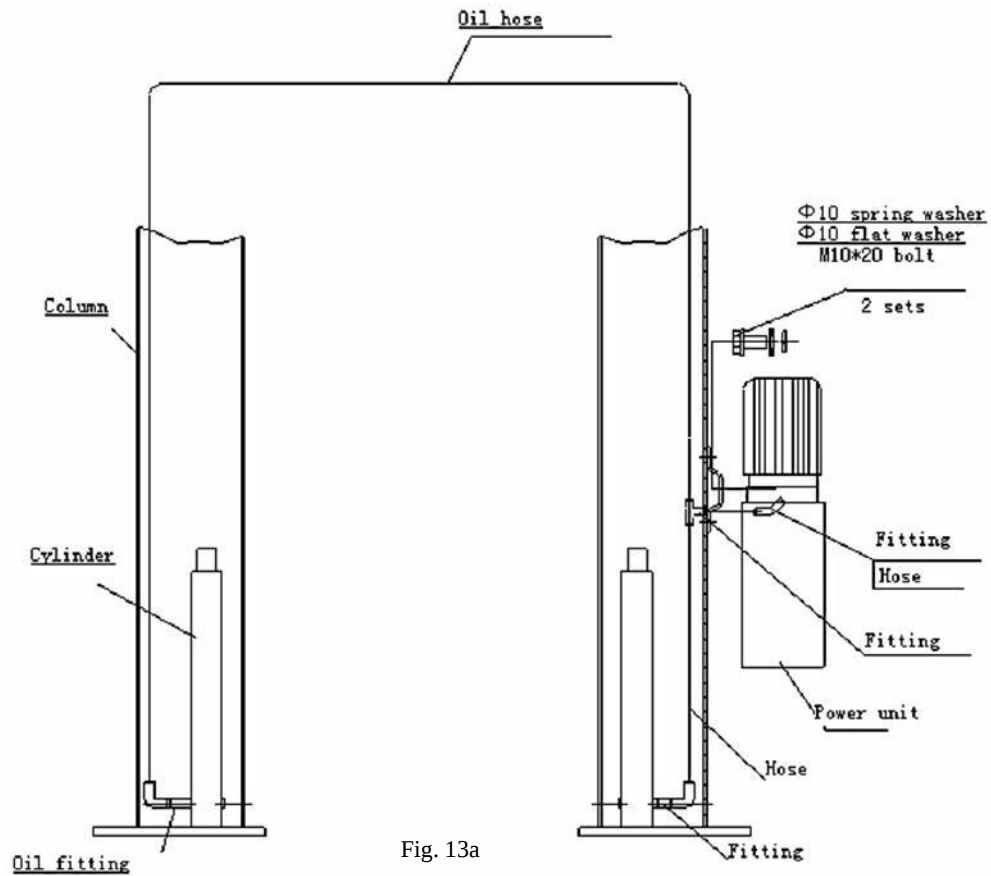
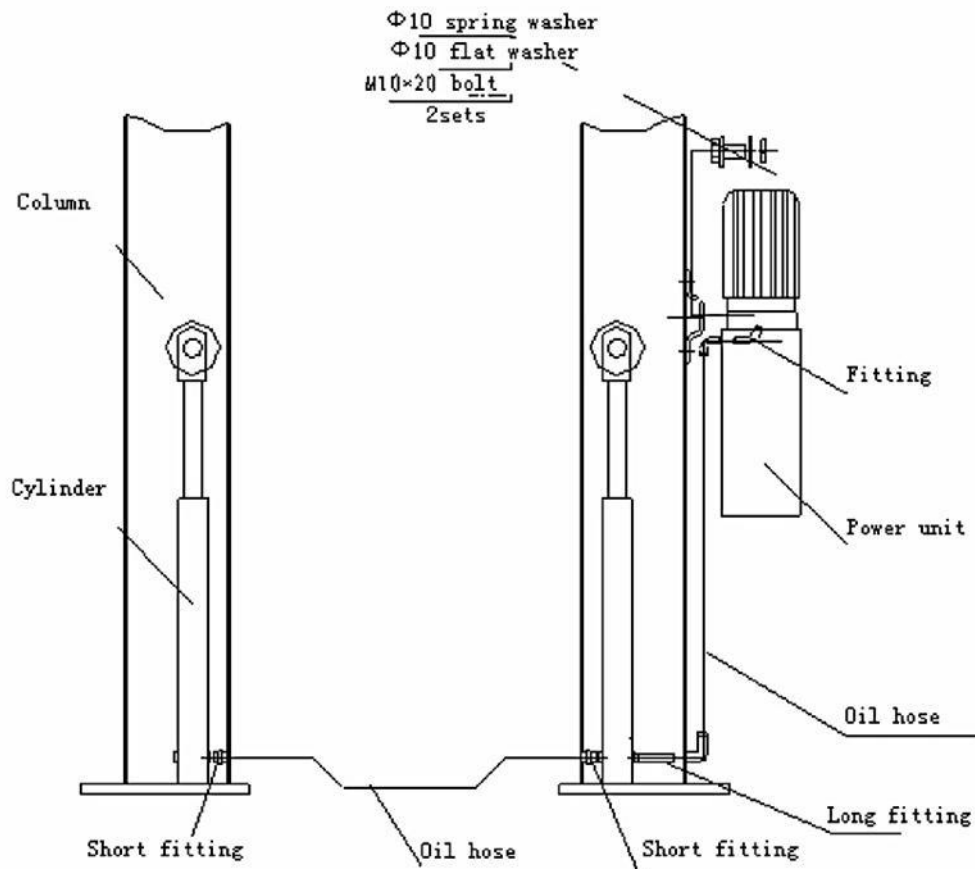

Fig. 13a
Fig. 13b
- Use two M10 Bolt s and washers to fix the power unit (as shown in Fig. 13a、 13b). for KT-M110 models, install the hydraulic line as shown in Fig. 13a , for KT-H100 models , install the hydraulic line as shown in Fig. 13b and tighten all the fittings top prevent oil leakage.